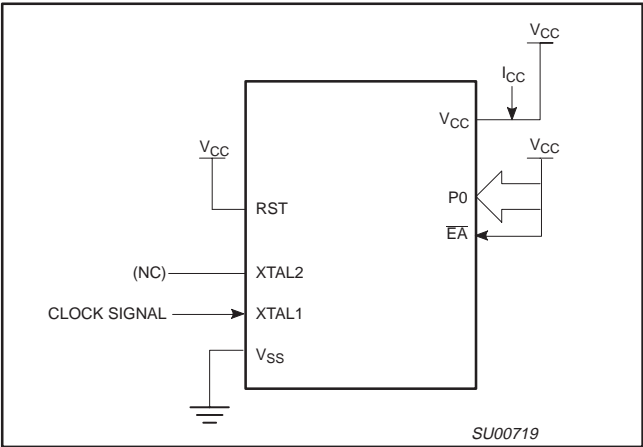

Figure 39. I_{CC} Test Condition, Active Mode
- See Figures 39 through 42 for I_{CC} test conditions and Figure 38 for I_{CC} vs. Frequency.